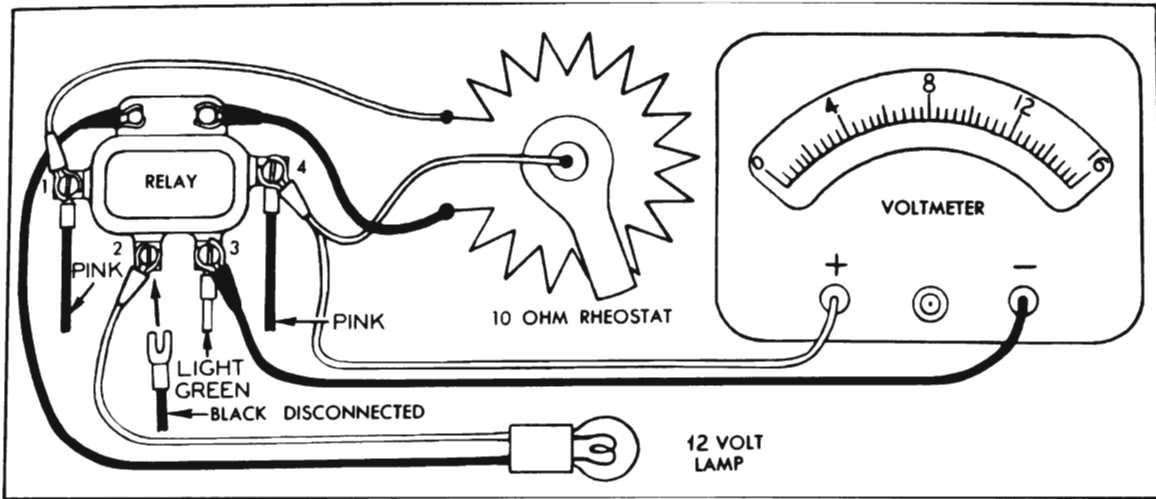

Figure 10-34—Solenoid Switch Relay Test Connections
1. With ignition switch turned off, remove black wire from relay terminal marked (2) in figure 10-34.
2. Connect 12-volt test lamp between relay terminal marked (2) and ground on relay mounting bolt.
3. Connect lead attached to rotating arm of rheostat to relay terminal marked (4). Connect one resistance lead to relay terminal marked (1) and connect the opposite lead to relay mounting bolt. See figure 10-34.
4. Connect leads of low reading voltmeter to relay terminals marked (3) and (4).
4. Connect the positive terminal of a 12-volt battery to relay terminal marked (1); connect the negative terminal of battery to relay terminal marked (3) and also to ground on relay mounting bracket.
5. Connect a 12-volt test lamp, low reading voltmeter and 10 ohm rheostat to relay terminals as shown in figure 10-34.